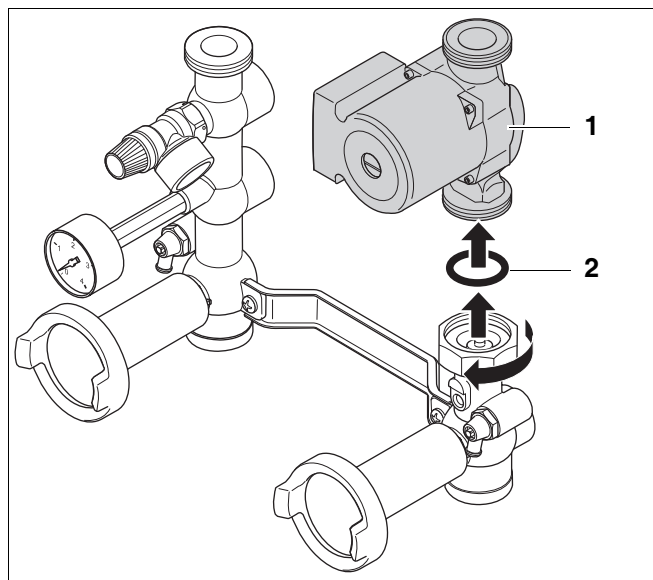

fig. 5 Removing the pump
- Remove the pump (fig. 5, **item 1**).
- Remove the flat rubber seal (fig. 5, **item 2**).